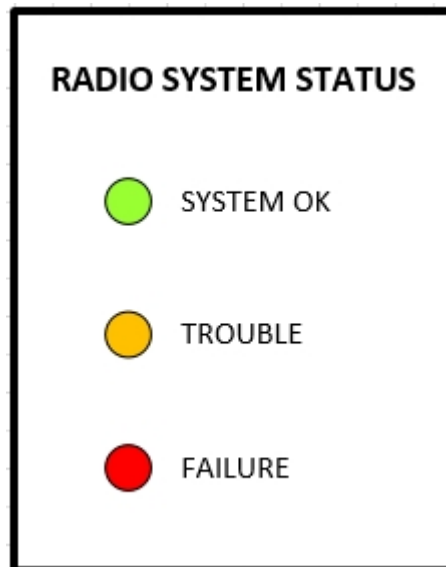

Figure 1: Radio System Annunciator Design
- The radio system graphic annunciation may be included on the fire alarm system graphic annunciator if it conforms to the requirements below and is delineated from the rest of the items on the annunciator as shown in figure 1.
- labeled as “Radio System Status” and including 3 indicator lights and accompanying text (see figure 1) which shall operate as follows: